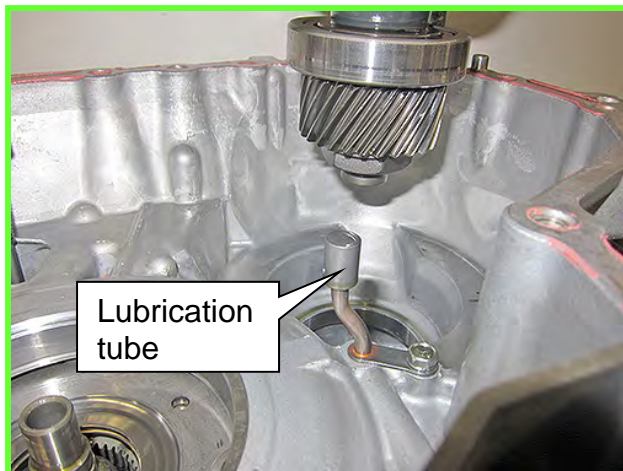
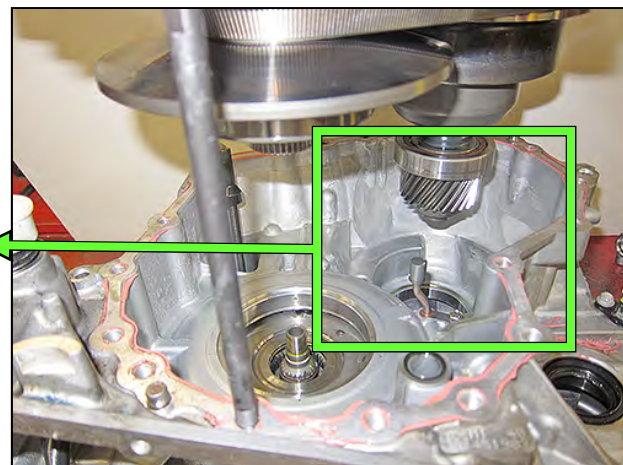

Figure 93
Figure 94
**IMPORTANT:** Do NOT allow the output gear to contact the lubrication tube when the side cover is positioned over the guide pins (Figure 93 and Figure 94).